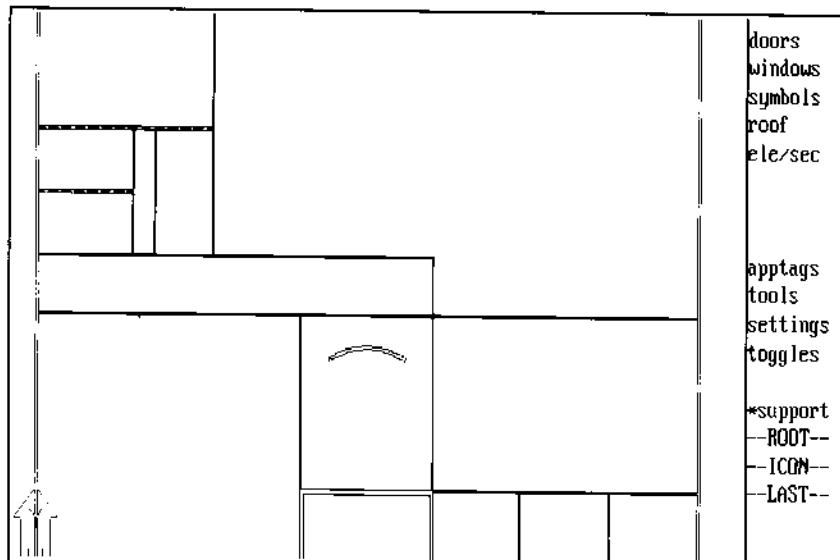

Figure 2.
6. Enter C:\ASG6TUT\SESSION3\SESSION3 as shown in Figure 2, then pick OK.